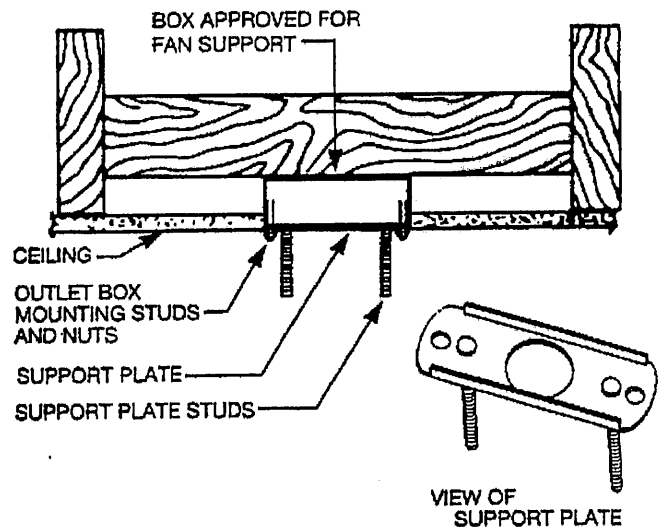

FIGURE 2
3. If your fan requires an outlet box approved for fan support, attach the fan support plate to the outlet box. See Figure 2. The support plate fits over the outlet box studs. Use the nuts supplied with the outlet box to secure the support plate. The studs on the support plate must extend downward.